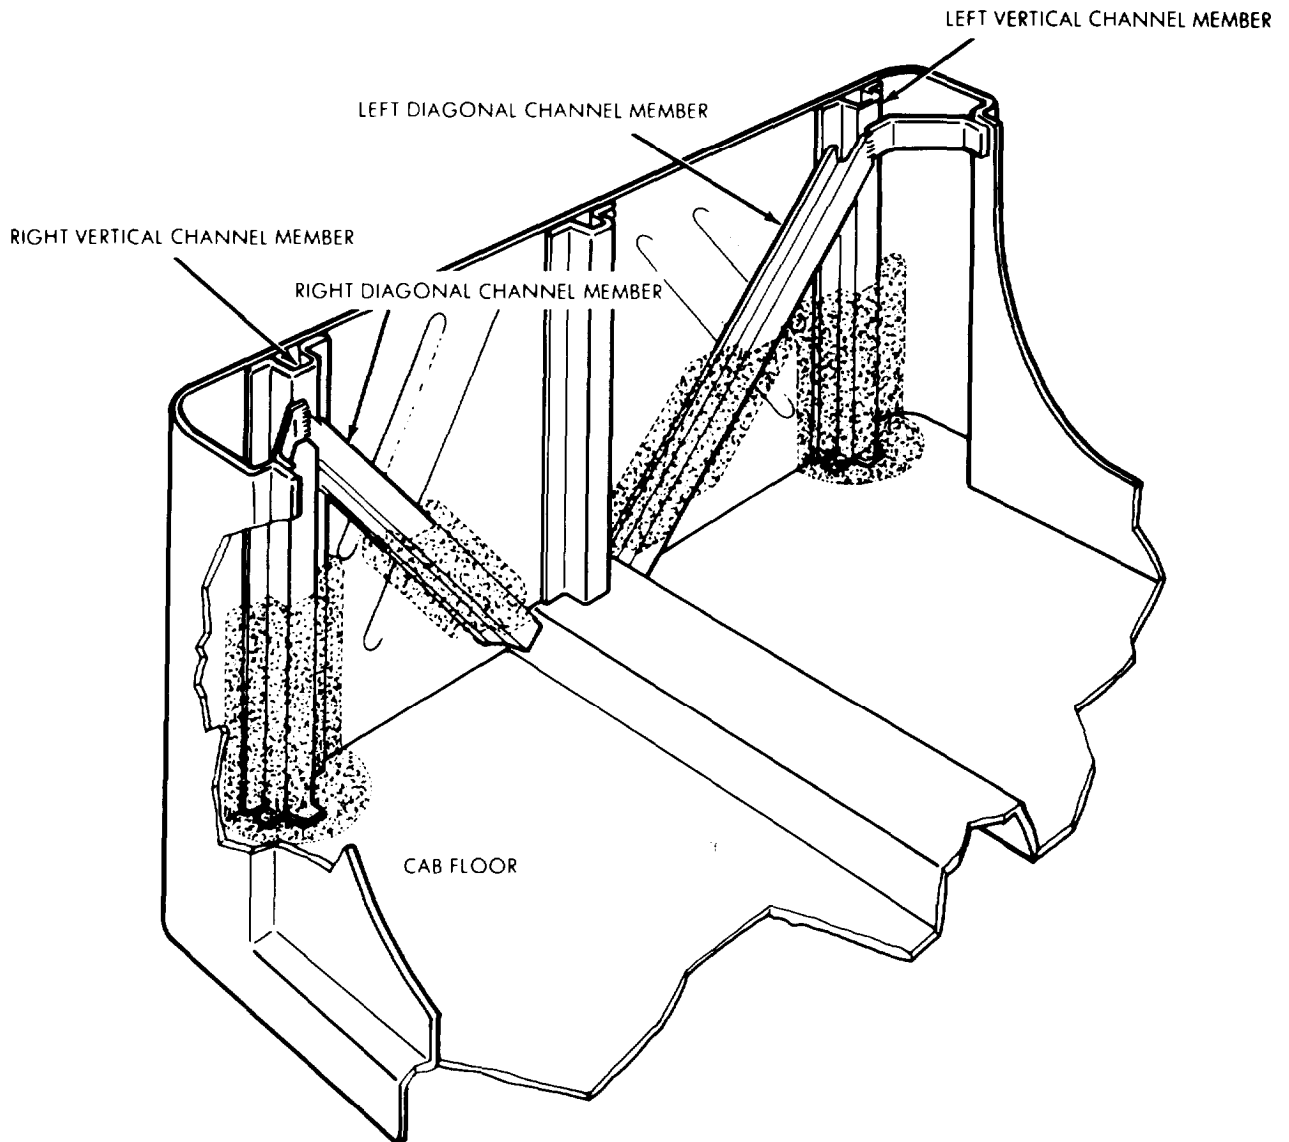

Figure 1. Metal Test Areas
(2) Inspect cab assembly for damage that affects the installation of the Seat Belt Kit. After removing driver and companion seats, check for rust/corrosion or other damage to the metal in the areas identified in figure 1. If rust/corrosion or damage is found, the degree of damage must be determined to decide what repair procedure to follow or whether the cab assembly should be replaced. Test the cab areas identified by shading in figure 1 for metal soundness by probing the metal surfaces every 3 in. (7.6 cm) with a 3/8 in. flat point punch NSN 5120-00-273-0001 and 16 oz machinist's ball peen hammer NSN 5120-00-061-8543.
(3) Good metal will remain intact or dent slightly when tapped with hammer and punch listed above. Rusted, corroded, or damaged metal will punch through or crumble when struck. If metal surfaces are sound, proceed with installation instructions as described in the kit drawing applicable to the truck. If metal rust, corrosion, or damage is detected, have it repaired before installation of the Seat Belt Kit.
(4) Any vehicle cab condition identified during inspection that prevents the proper installation of the kit as specified by this MWO is justification for denial of application. Vehicles failing this inspection because of repairable rust, corrosion, or metal damage will be identified with the following statement on DA Form 2407: "Unable to install Seat Belt Modification Work Order because of repairable rust/corrosion or metal damage." (Indicate which condition applies.) The vehicle will be returned to the owning unit for repair. If repairs are past the owning unit's capability, or if the cab assembly must be replaced, the owning unit will evacuate the vehicle to Direct Support Maintenance for repair or replacement.
(5) No cab repair or replacement time is authorized by the installation team when MWO 9-2320-200-35-1 is applied.
c. Government Verification. All quality assurance operations performed by installer are subject to Government verification at unscheduled intervals. Verification will consist of: (A) Surveillance of the operations to determine that practices, methods, and procedures of the written inspection plan are being properly applied; and (B) Government product inspection to measure quality of product offered for acceptance, deviation from prescribed or agreed upon procedures, or instances of practices which might have an adverse effect upon the quality of the product. will immediately be brought to the attention of the installer. Failure of the installer to promptly correct deficiencies noted shall be cause for suspension of acceptance until corrective action has been made, or until conformance of product to prescribed criteria has been demonstrated.
d. In-Process Inspection. During normal assembly operations, inspect condition of cab sheet metal indicated in figure 1 and seat belt anchor screws at the points where seat belts attach to the seat and where seat belt tether attaches to cab assembly. Seat belt mounting screws will be checked to ensure that torque value is within tolerance specified in Seat Belt Kit installation instructions. Seat belt retractors and buckle release mechanisms must function properly. Driver and companion seats must be remounted as described in the technical manual for the applicable vehicle. All vehicles modified during each production shift will be checked to assure product quality and proper installation.